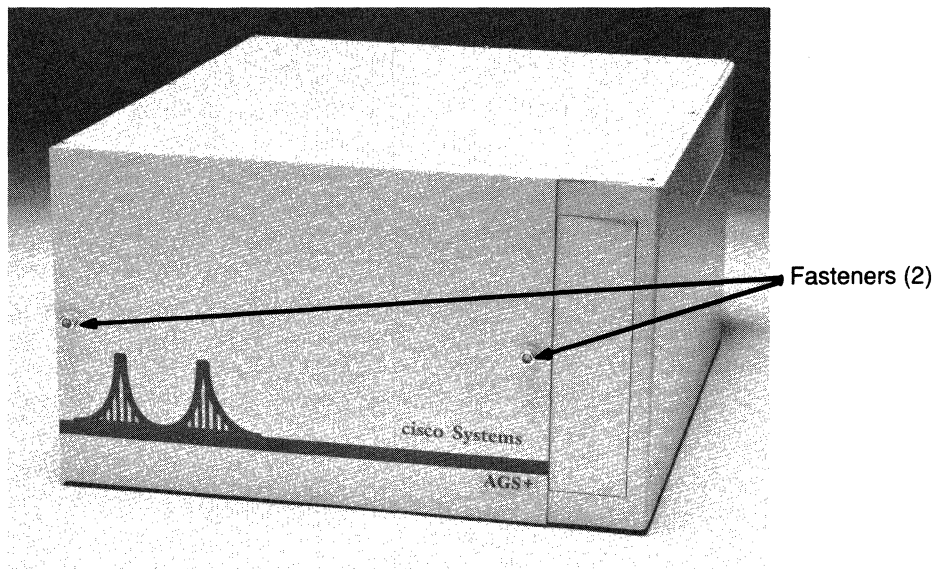

Figure 5-2 A-Type Chassis Access Panel Fasteners
Step 1: Loosen, but do not attempt to remove, the two thumb fasteners shown in Figure 5-2.